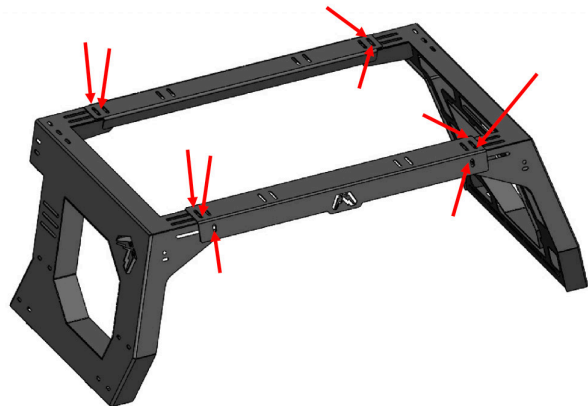

Figure 2
2. Take the two front assemblies (22460 and 22461) along with a cross bars and rear cross bar (22464 and 22465) and loosely install them together using ten (10) 3/8" bolts, washers and nuts (50284-HW). Figure 2